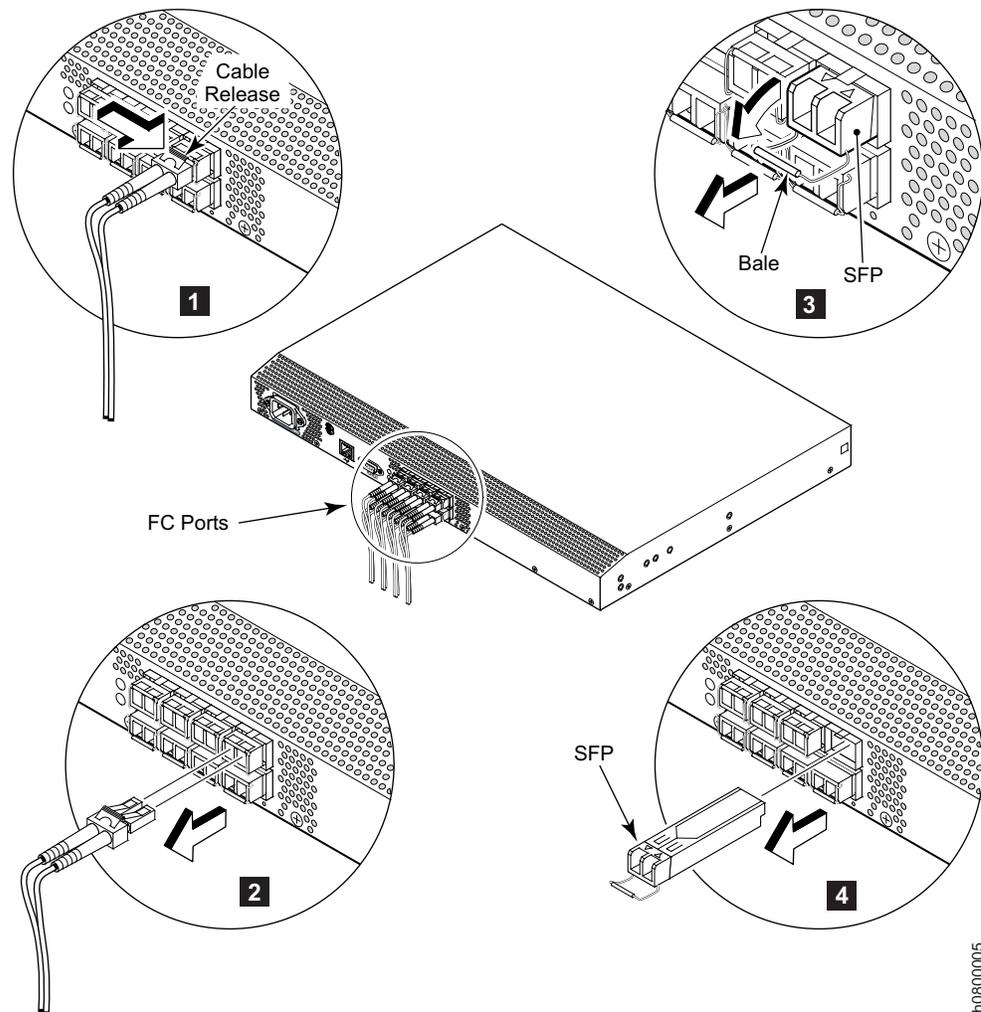

Figure 18. Removing an SFP
1. Press and hold the cable release, as shown in Figure 18.